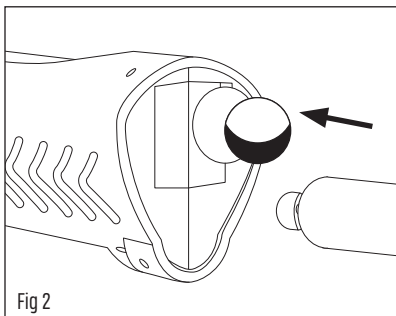

Fig 2
2. Place five PepperBall® projectiles in the projectile load chamber where you removed the Projectile Plunger. Reinsert the Projectile Plunger and turn it approximately 1/8 turn counterclockwise until it locks back into place. (Fig 2)